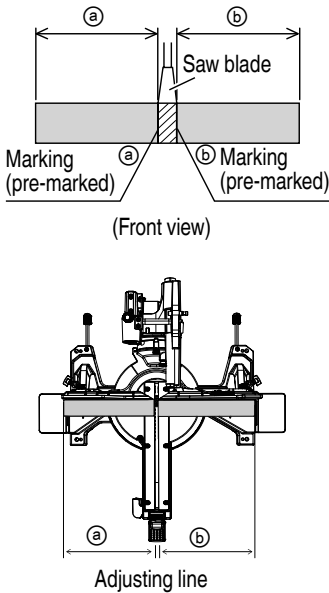

Fig. 31
- (1) As shown in Fig. 31 the width of the saw blade is the width of the cut. Therefore, slide the workpiece to the right (viewed from the operator's position) when length ⑥ is desired, or to the left when length ⑤ is desired.